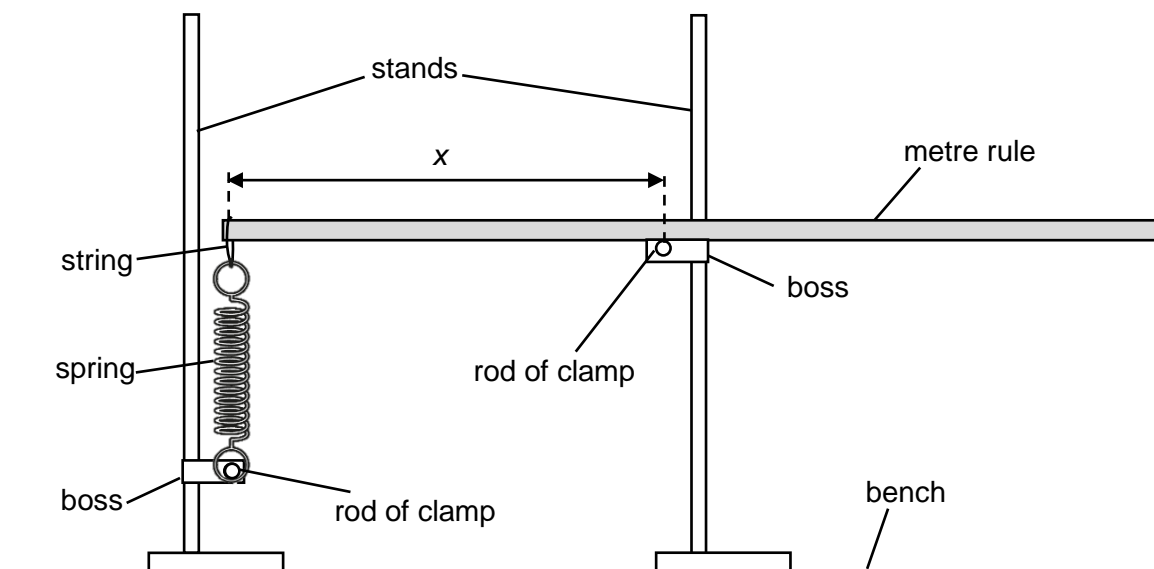

Fig. 2.3
- (b) Set up the apparatus as shown in Fig. 2.3.
The distance x between the hole with the string and the centre of the rod is shown in Fig. 2.3.